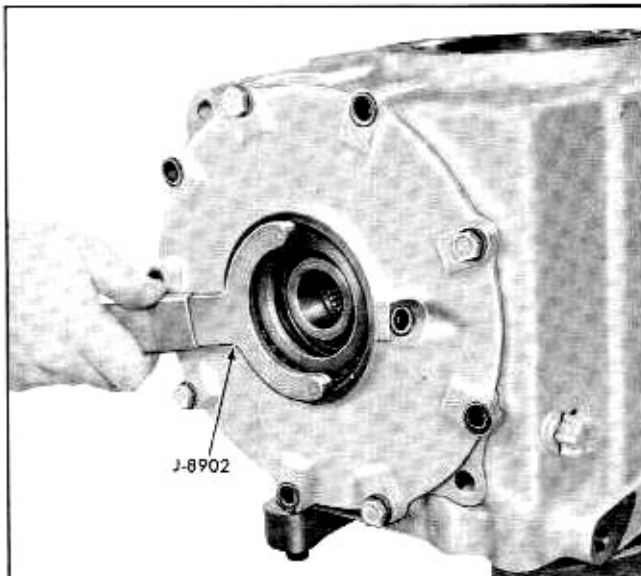
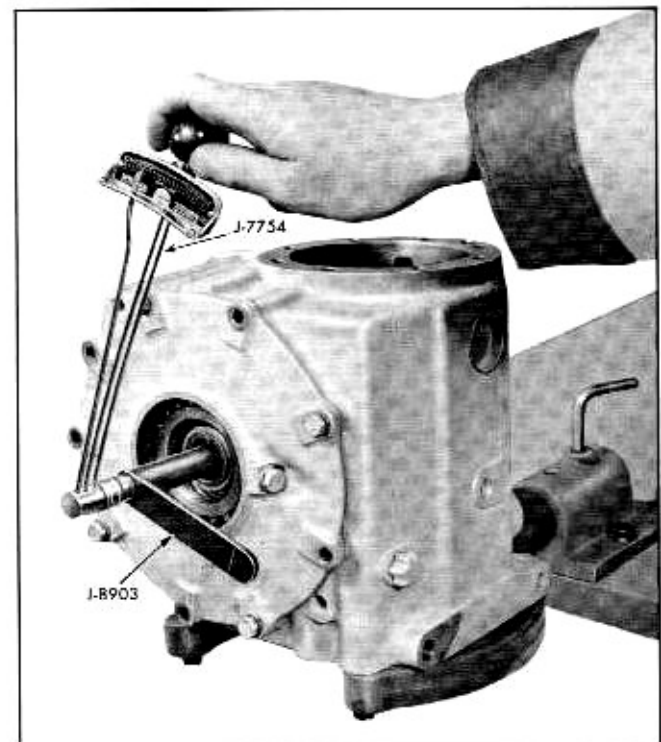

Fig. 4-52 Adjusting Side Bearing Preload
Fig. 4-53 Checking Side Bearing Preload
8. Adjust side bearing preload to 10-20 lb. in. by turning side bearing adjusting nut in carrier using tool J-8902 (Fig. 4-52). Check side bearing preload using J-8903 in shaft and J-7754 torque wrench (Fig. 4-53).